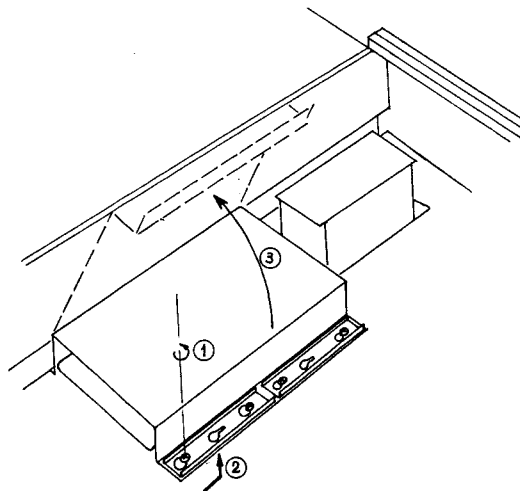

Fig. 6
16. For this step, the control panel must be in the "UP" (service) position. Now, locate the metallized paper cover used to shield the EAP circuit board. Loosen the retaining screws (4). Removal of the retaining screws is not necessary, "Key hole" slots have been provided. Now, remove the metal brackets and metallized paper cover (see figure 6).